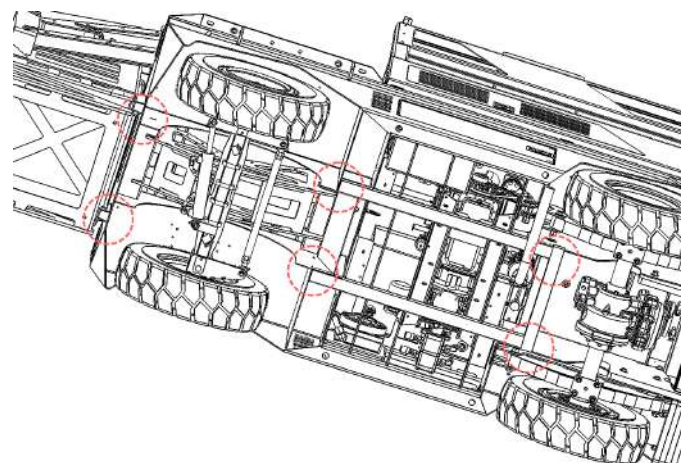

Figure 36. Weld Zones.
- Weld zones (see Figure 36 : not all welds are shown).